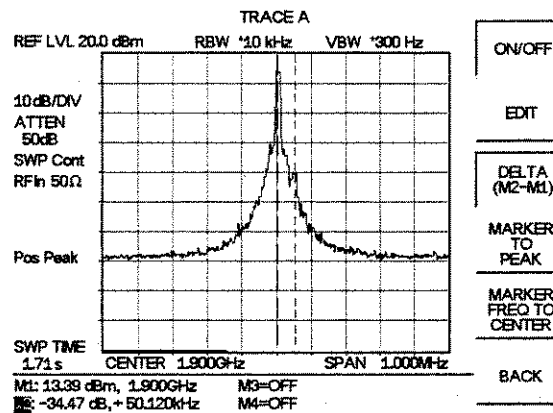

Figure 5-12. Measurement of Two Signals Having Unequal Amplitudes
**Step 6.** Change the frequency in the second source from 1900.100 MHz to 1900.050 MHz gradually and observe the effect. Figure 5-12 shows the results with the two signals spaced 50 kHz apart using a signal combiner/splitter with a loss of 6 dB.